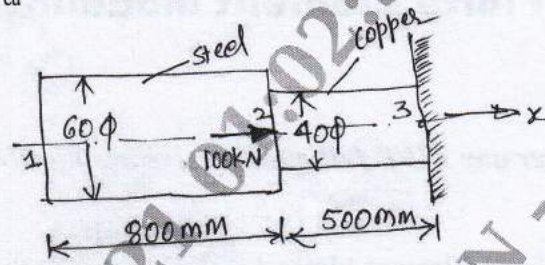

Fig. Q5 (a)
- b. Consider the bar shown in Fig. Q5 (b). An axial load $P = 200 \times 10^3 \text{ N}$ is applied as shown.